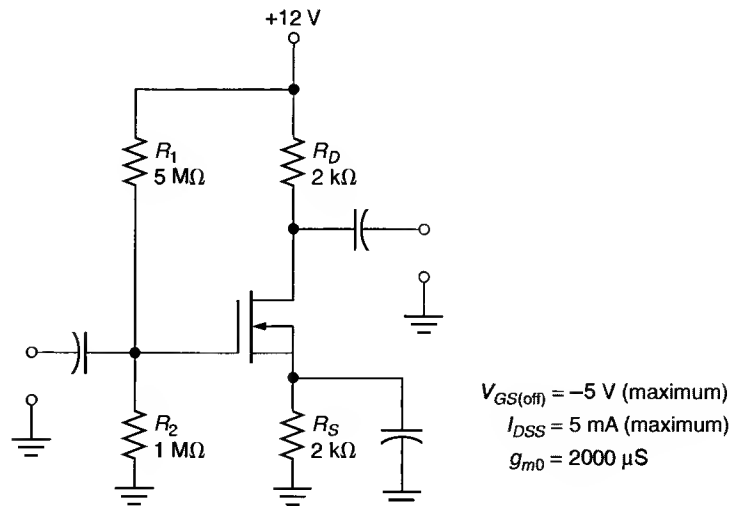

FIGURE 13.39
21. Determine the range of I_D values for the circuit shown in Figure 13.39.